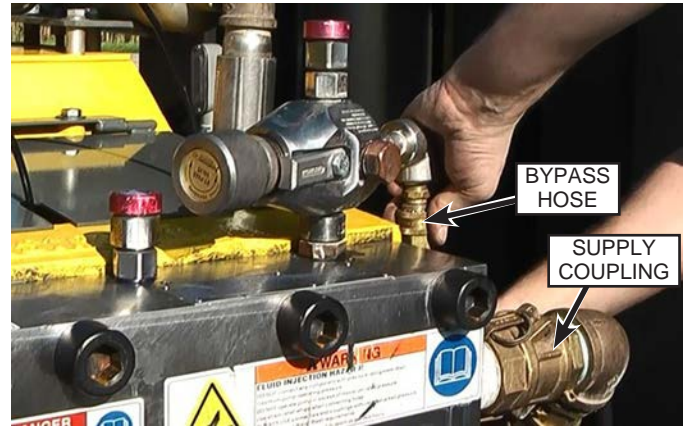

Fig. 42: Line Removal
3. Disconnect the bypass drain hose (Fig. 42) and the supply coupling from the manifold.